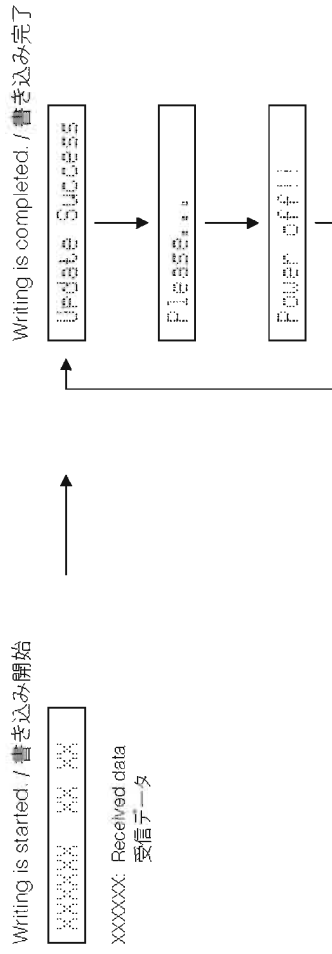

Fig. 3
6. Press the "PLAY" key of the DVD/CD player. Then writing of the firmware is started. (Fig. 3)
7. When writing of the firmware is completed, "Update Success", "Please..." and "Power off!!" are displayed repeatedly. (Fig. 3)